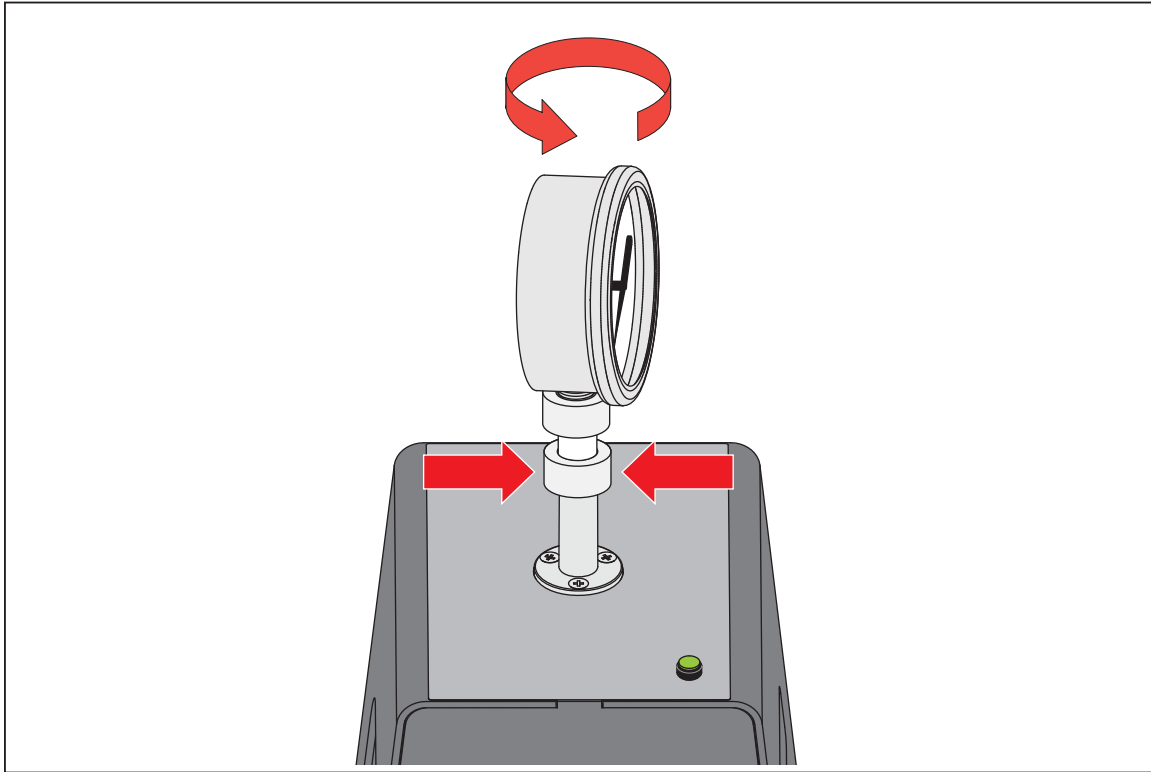

Figure 20. Adjust Gauge Position
3. To adjust the position to face forward, hold the gauge adapter and turn the instrument COUNTER-CLOCKWISE, so that it faces forward, see Figure 20.